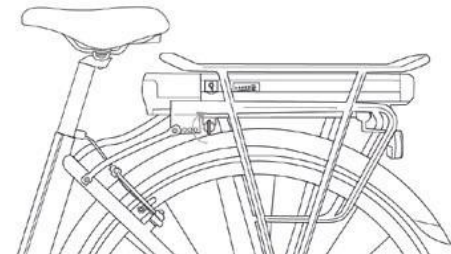

FIG. 7
1. Insert the battery release key into the lock on the front left side of the luggage rack and turn it counterclockwise (Ref. 1- 2- Figure 7);
2. Insert the battery, making sure to align the guide in the housing with the one in the lower part of the battery. Press the battery until you hear it click into place (Ref. 2 - Figure 7);
3. Turn the key clockwise (to lock the battery) and remove it (Ref. 3 - Figure 7).